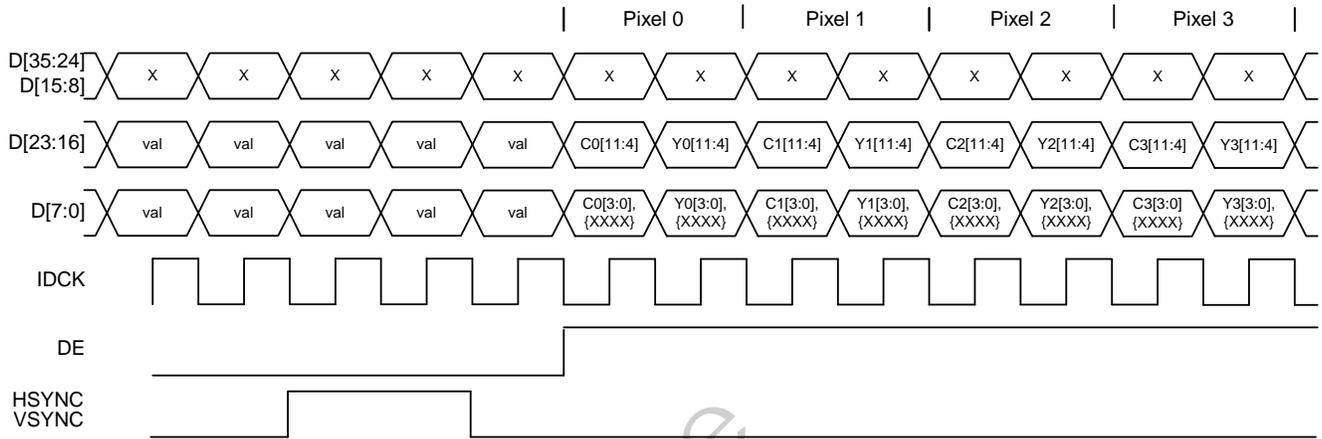

Figure 32. YC Mux 4:2:2 Timing Diagram
The video data is multiplexed onto fewer pins than the mapping in Table 17, but a luma (Y) is provided for each pixel, and either a Cb or a Cr value for each pixel, since the clock rate is doubled. Figure 32 shows the 12-bit mode. The 10- and 8-bit mappings use fewer input pins for the pixel data. Note the explicit syncs.